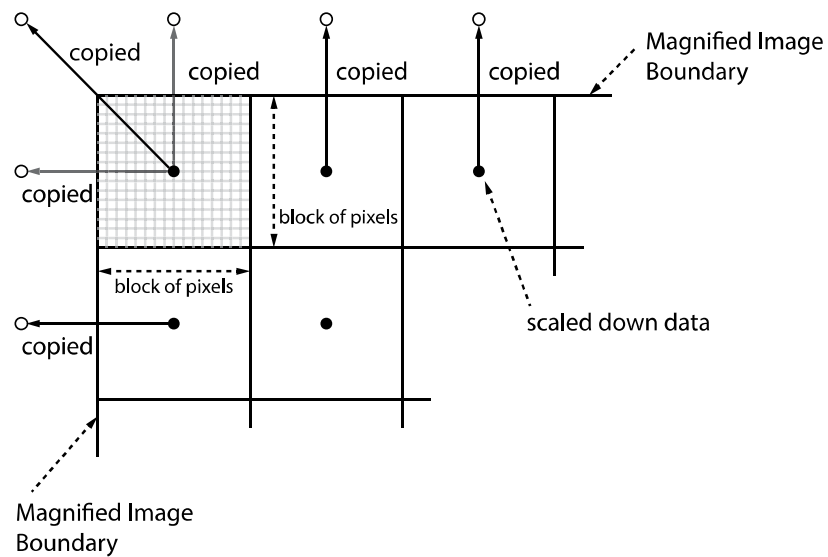

Figure 9-10 Bilinear Interpolated Magnification
3. Execute the **Flat Field Data Save** parameter to save the generated Flat Field data into the non-volatile memory. When the scaled down Flat Field data are used for correction, they are expanded and applied with a Bilinear Interpolation as shown in the **Figure 9-10**.